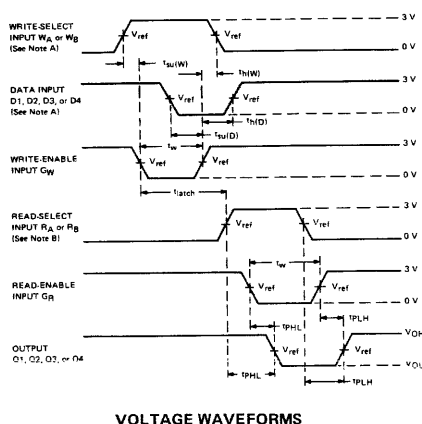

FIGURE 2
4. Latch time is the time allowed for the internal output of the latch to assume the state of new data. See Figure 2. This is important only when attempting to read from a location immediately after that location has received new data.
- A. High-level input pulses at the select and data inputs are illustrated in Figure 2; however, times associated with low-level pulses are measured from the same reference points.